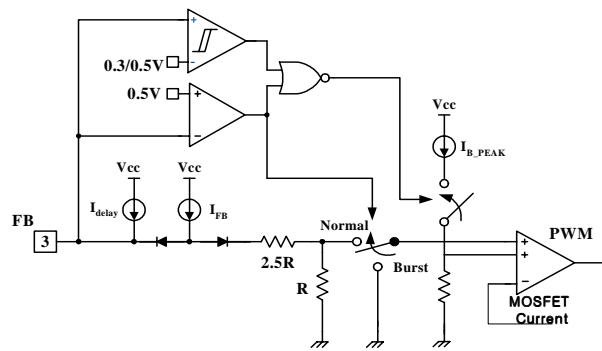

Figure 8. Circuit for Burst operation
5. Soft Start : The FPS has an internal soft start circuit that increases the feedback voltage together with the Sense FET current slowly after it starts up. The typical soft start time is 14msec, as shown in figure 8, where progressive increments of Sense FET current are allowed during the start-up phase. The pulse width to the power switching device is progressively increased to establish the correct working conditions for transformers, inductors, and capacitors. The voltage on the output capacitors is progressively increased with the intention of smoothly establishing the required output volt-